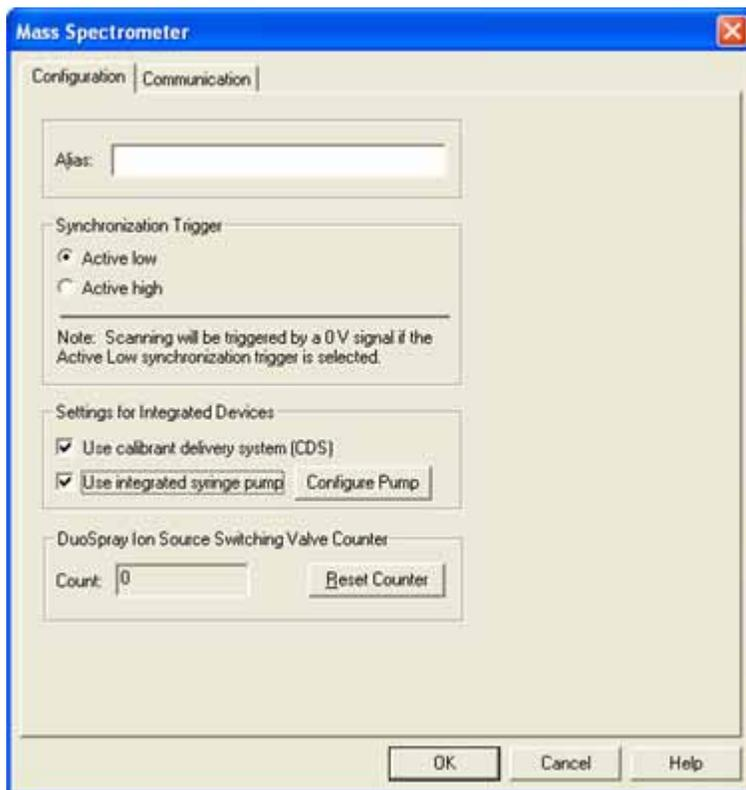

Figure 2-4 Configuration tab
8. (Optional) On the **Configuration** tab (Figure 2-4), in the **Settings for Integrated Devices** section, select the **Use calibrant delivery system (CDS)** check box.